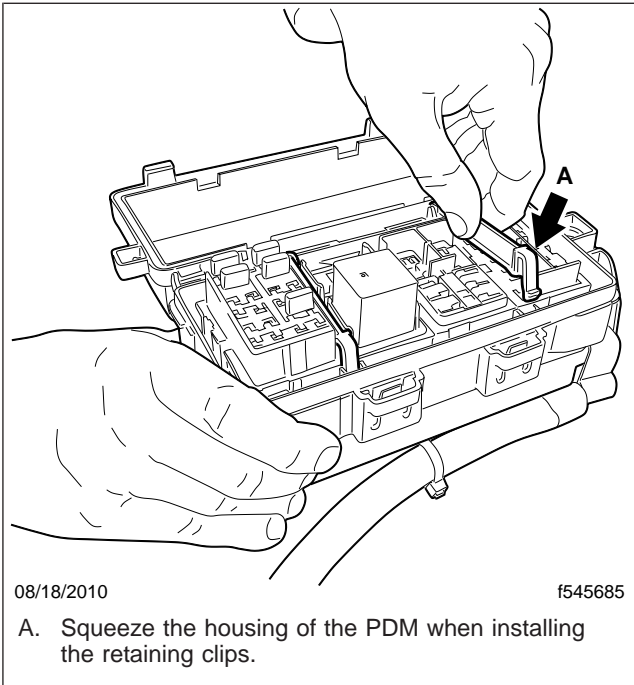

Fig. 4, Installing the Retaining Clips
4. Gently squeeze the PDM housing and install the two retaining clips. See Fig. 4.